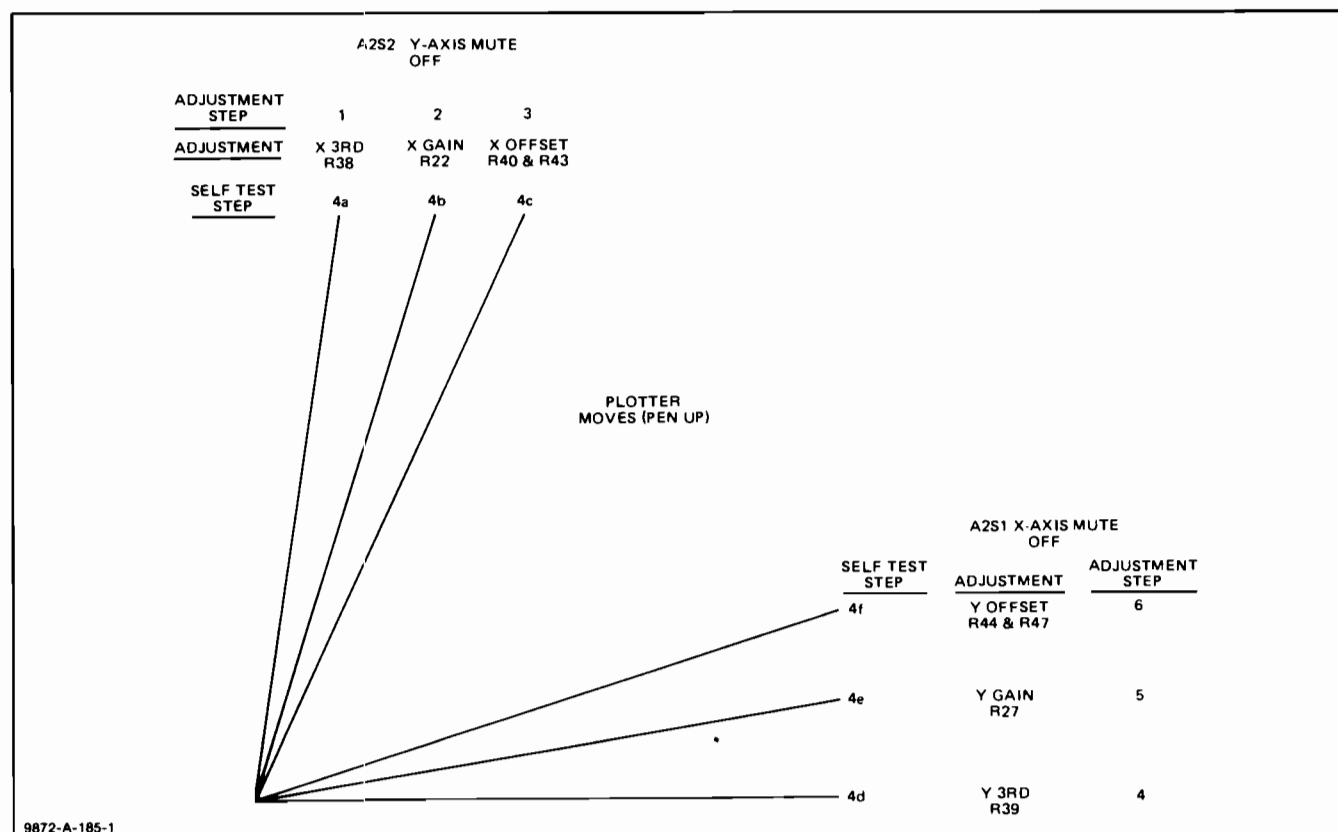

Figure 3-3. Electrical Adjustment Chart
- k. Return the X-MUTE switch S1 to the ON position. Also place the SELF TEST switch S4-2 to the OFF position. Figure 3-3 contains an overview of the electrical adjustment procedures.